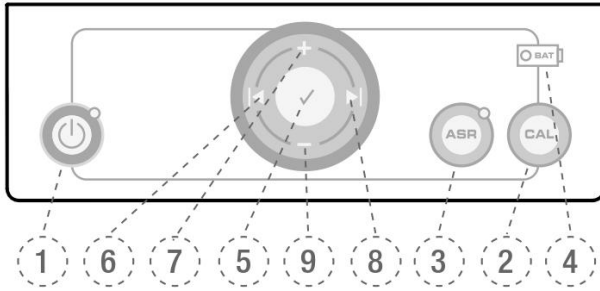

Fig. 4 Keypad
- or the micromotor may also be operated by holding down the **CONFIRM** key ✓ (5), Fig. 4 for 1.5 seconds. The micromotor can be stopped again by pressing any key or the foot pedal. To conserve battery power, when operated with the **CONFIRM** key ✓, the micromotor will stop automatically after 5 minutes of non-use.
Press the **POWER** key to switch off the device. The battery LED (4), Fig. 4 will not light up unless the battery is charging.
Calibrating **CAL** (2), Fig. 4 the micromotor automatically adjusts the torque measurement to ensure torque accuracy each time the micromotor has been changed, the contra-angle is replaced, autoclaved and/or lubricated.
- Hold down the **CAL** (2) key.